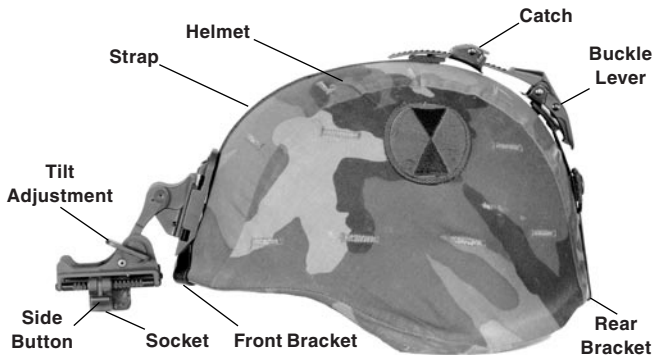

Figure 2-8. Helmet Mount Features
2. With the catch in forward most position, place the strap over the top of the helmet, center and hook the rear bracket onto the rear of the helmet. Center the front bracket, hook in on the front of the helmet and hold it in place. (See Figure 2-8.)
3. To view the compass through the PVS-7, grip the compass with index finger on top and thumb on illumination button on the bottom (Figure 2-1). Press button slightly with thumb until proper brightness is obtained. The image should appear as shown in Figure 2-8.